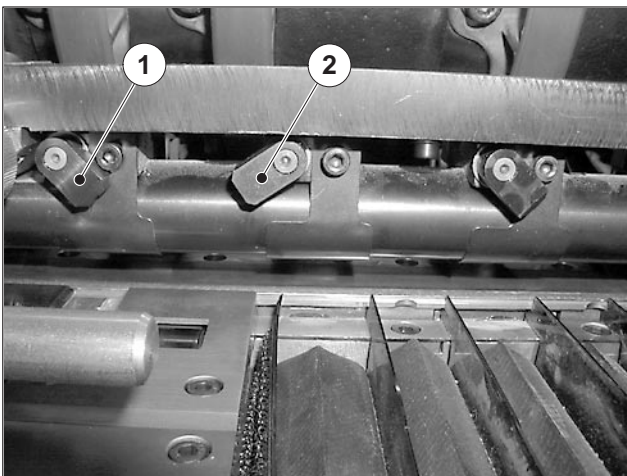

Fig. 70 Throwing on/off separator rolls
1. Fold the lever on the separator roll clockwise to O.S. (Fig. 70/2).
1. Fold the lever on the separator roll anti-clockwise to D.S. (Fig. 70/1).